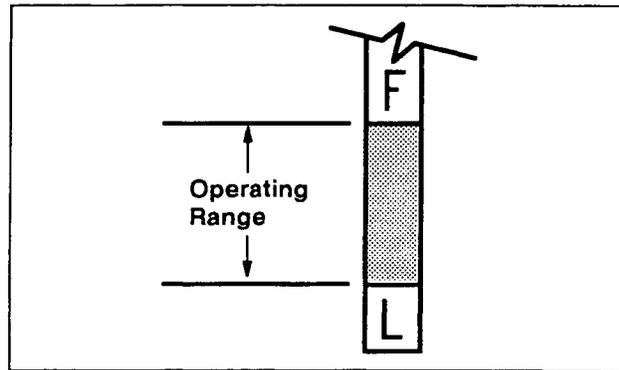

Figure 1-4. Oil Level Operating Range.
**CAUTION:** Do not operate the engine with the oil level below the "L" mark or over the "F" mark on dipstick. Refer to Figure 1-4.